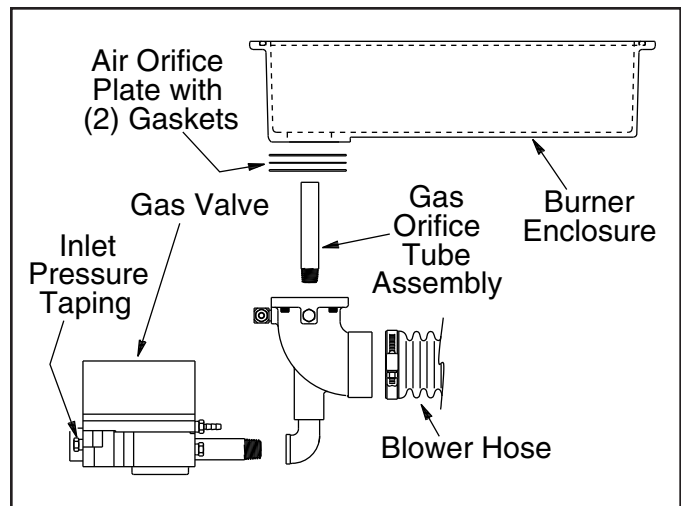

Figure 22: For Access To Gas and Air Orifices
Orifice (Gas and Air) Removal (See Figure 22)
- Measure i.g.p. at inlet pressure tap on gas valve (see Fig. 22).